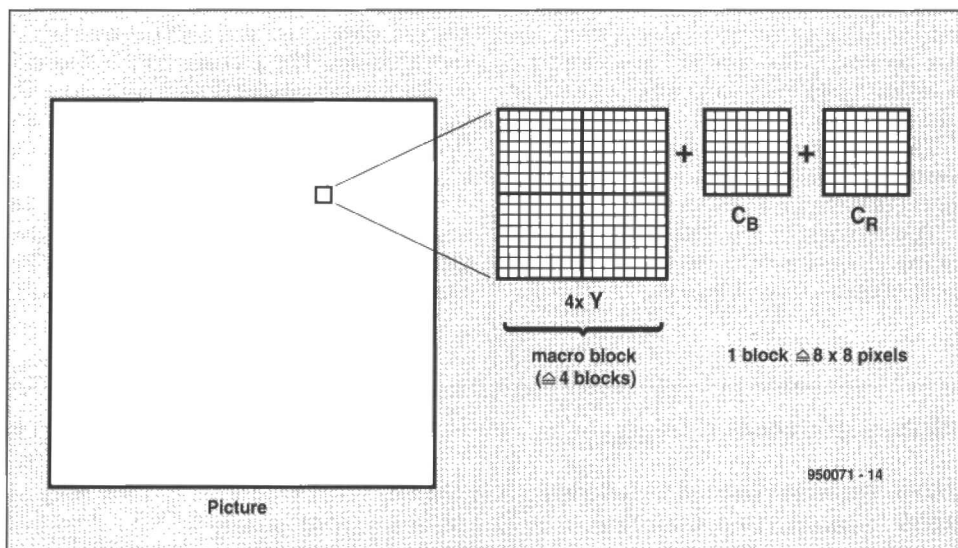

Fig. 4. Picture division in macro blocks and sub-blocks.
The data processing in an MPEG-2 encoder requires each original picture to be divided into a raster consisting of four macro blocks (Fig. 4). Each macro block consists of four sub-blocks of eight by eight picture elements each. The brightness signal (luminance) and the two colour signals (chrominance) are processed as blocks one after another. Associated with each macro block of 16 times 16 brightness values (Y) are two colour type blocks, C_b and C_r , each consisting of eight times eight colour values. This arrangement is referred to as 4:2:0 format by the experts. The 4:2:2 format of the High Profile (Table 1) is obtained by adding four instead of two colour blocks to each macro block. The result is a better colour resolution. The MPEG encoder described below processes each of these luminance and chrominance individually, and in succession.